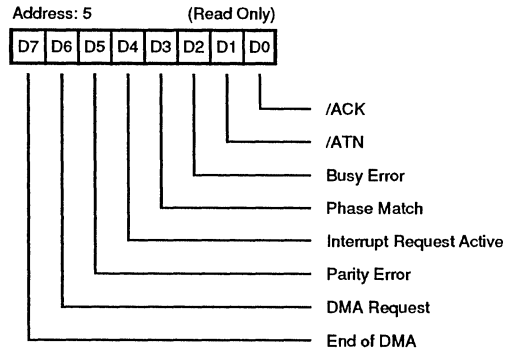

Figure 26. Bus and Status Register
**Bus and Status Register.** Address 5 (Read Only). The Bus and Status Register (Figure 26) is a read-only register which can be used to monitor the remaining SCSI control signals not found in the Current SCSI Bus Status Registers (/ATN and /ACK), as well as six other status bits. The following describes each bit of the Bus Status Register individually.
**Bit 5. PARITY ERROR.** Bit 5 is set if a parity error occurs during a data receive or a device selection. The PARITY ERROR bit can only be set (1) if the ENABLE PARITY CHECK bit (Mode Register, bit 5) is active (1). This bit may be cleared by reading the Reset Parity/Interrupt Register.
**Bit 7. END OF DMA TRANSFER.** The END OF DMA TRANSFER bit is set if /EOP, /DACK, and either /RD or /WR are simultaneously active for at least 100ns. Since the /EOP signal can occur during the last byte sent to the Output Data Register, the /REQ and /ACK signals should be monitored to ensure that the last byte has been transferred. This bit is reset when the DMA MODE bit is reset (0) in the Mode Register.
When an interrupt occurs, the Bus and Status Register and the Current SCSI Bus Status Register (Figures 26 and 24) must be read to determine which condition created the interrupt. IRQ can be reset simply by reading the Reset Parity/Interrupt Register or by an external chip reset /RESET active for 100ns.